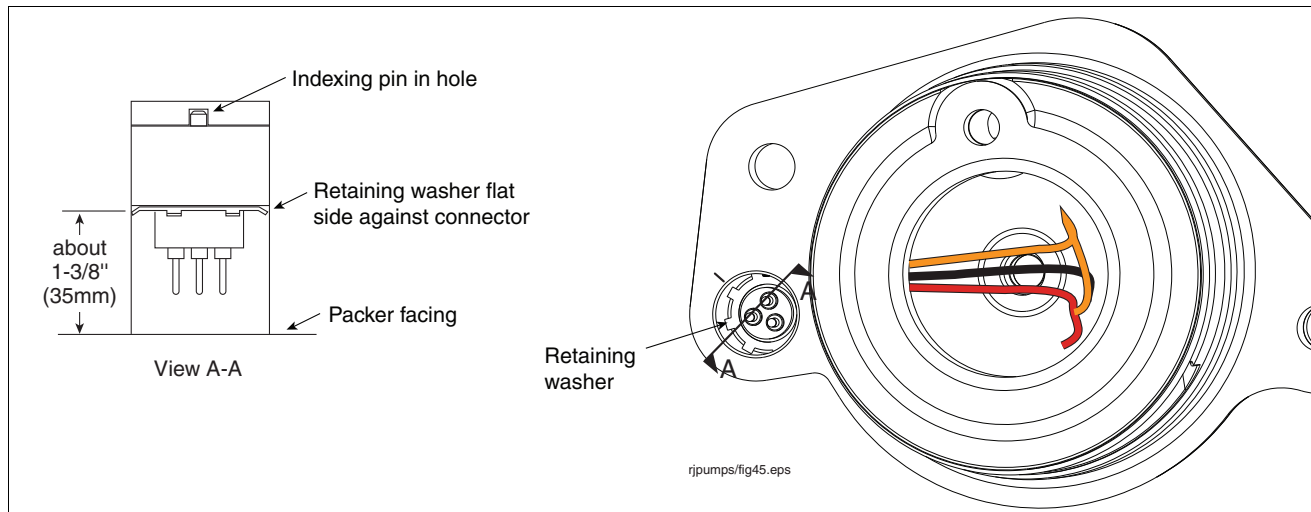

Figure 34. Correct Depth Of Male Connector In Packer Socket
13. Thread the wires of the new male connector down into the socket and out through the opening in the base of the socket into the packer wiring compartment. Gently pull the wires into the wiring compartment as you align the masking tape mark on the connector with the felt tip mark on the packer facing. When you have pushed the connector all the way into its socket it should not rotate if the indexing pin is in the index hole. Using the small ruler, measure the distance from the packer facing down to the connector, it should be a little more than 1-3/8" (see Figure 34). Hold the wires tight to keep the connector in position and insert the retaining washer (with upturned teeth facing out) forcing it down until it is firmly against the connector. Recheck the 1-3/8" measurement after installing the retaining washer to confirm that the connector is at the proper depth.